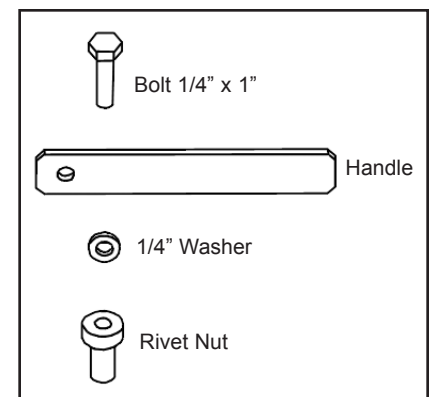

Figure 2
6. Assemble the **bolt, washer, handle** and **rivet nut** as shown in **Figure 2**: